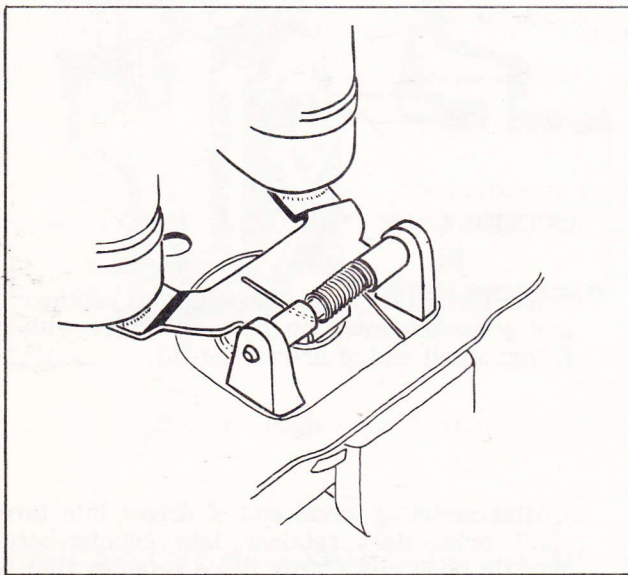

Fig. 7. Float Setting
10. Insert float shaft through hinge bracket and float lever bushing from side opposite slot in hinge bracket with fingers only. Install float spring as shown Figure 7 above. Then press float shaft (31) through slotted side of bracket, using handle of screwdriver.